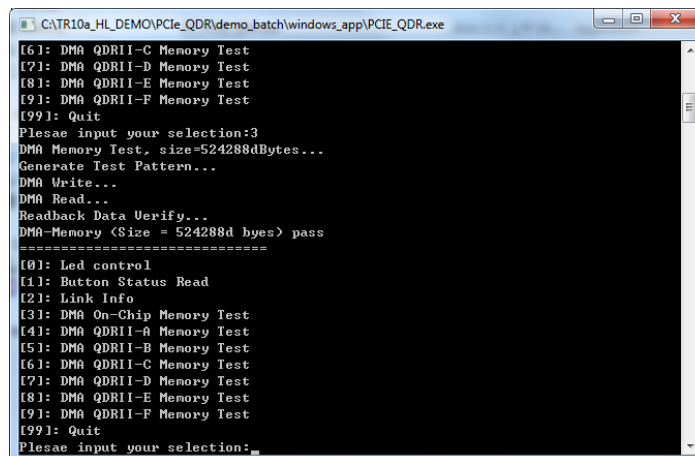

Figure 7-18 Screenshot of On-Chip Memory DMA Test Result
8. Type 3 followed by an ENTERY key to select DMA On-Chip Memory Test item. The DMA write and read test result will be report as shown in **Figure 7-18**.